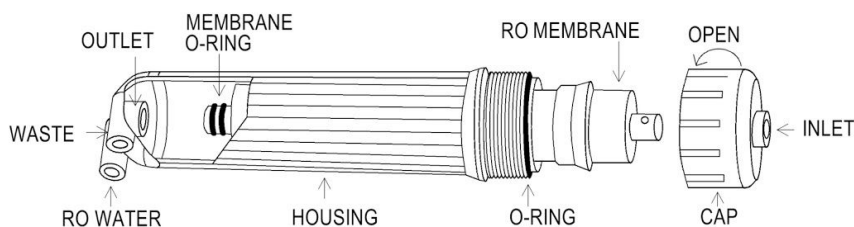

Figure 8
- 6.4 **Before twisting the housing cap back on, make sure the O-ring is seated at the end of the membrane housing as shown in figures 8 and 9. This is very important to avoid leaking and damage to the O-ring.